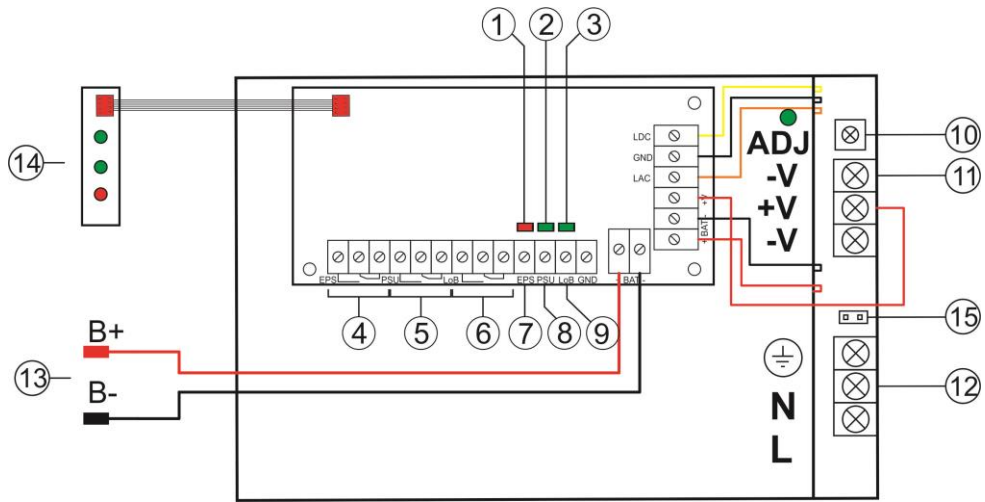

Fig. 2. The view of the PSU.
Table 1. Elements of the module’s (see fig. 2).
Fixation	See figure 2
- red LED (Fig.2, element 1) normal status (AC power): permanently illuminated. AC power absence is indicated by the AC diode going out.
- green LED (Fig.2, element 2) indicates DC power at the PSU output. Under normal status the diode is permanently illuminated. In case of a short circuit or an overload, the diode is off.
- green LED (Fig.2, element 3) indicates battery voltage level. Under normal status ($U_{BAT} > 11,5V$) the diode is permanently illuminated. In case of decrease of battery voltage ($U_{BAT} < 11,5V$) the diode is off.
CAUTION! In Fig.2. the contact set in the potential-free status corresponds to a state with no AC power (AC power failure).
CAUTION! In the Fig.2. the set of contacts shows a potential-free status of the relay which corresponds to a state with no DC power (PSU failure).